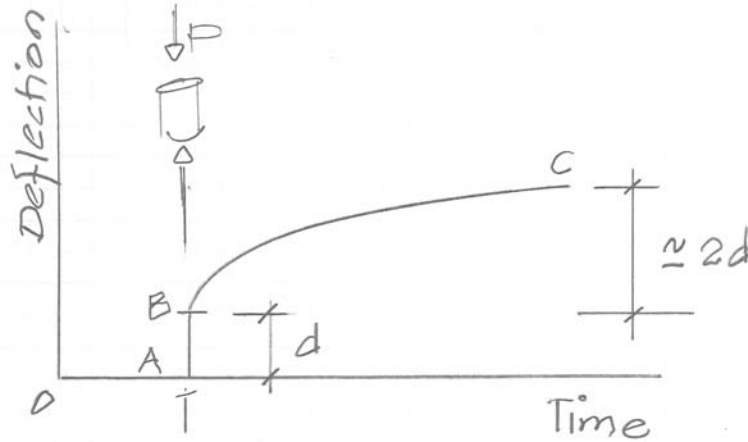

FIGURE 2 CREEP DEFLECTION WITH TIME
- ❖ Creep deflection is initiated when a member is subject to load. Refer to Fig. 2. When load is applied on day "T," there is an instantaneous elastic deflection (d). With time, the deflection under load increases - initially at a higher rate. The creep deflection is generally around 2 times the instantaneous deflection. The instantaneous deflection is generally calculated assuming concrete is 28 days old, using the modulus of elasticity for day 28. When loaded at a later date, the modulus of elasticity is more, leading to a lesser creep deflection.